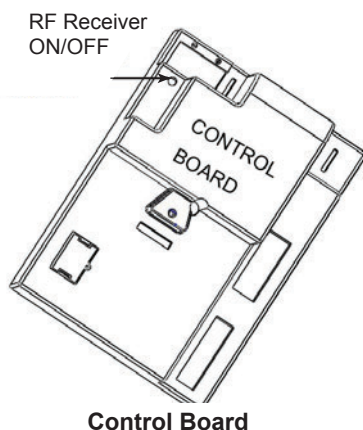

Figure 45
1. The RF receiver button on the control board in the fireplace must be in the on position before the learn function can begin. **Figure 45**. With the Command Center master switch in the ON position, use paper clip to depress the recessed button on Control Board, one beep for RF receiver ON or two beeps for RF receiver OFF